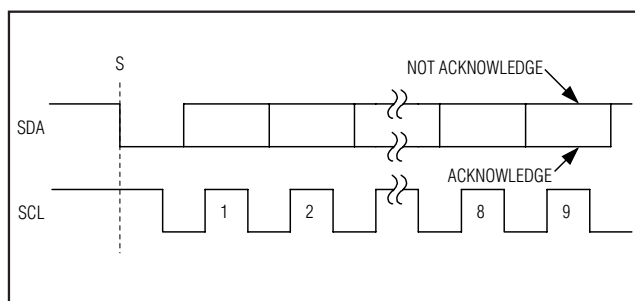

Figure 6. Acknowledge Bits
Data transfers are acknowledged with an acknowledge bit (A) or a not-acknowledge bit (\bar{A}). Both the master and the MAX11646/MAX11647 (slave) generate acknowledge bits. To generate an acknowledge, the receiving device must pull SDA low before the rising edge of the acknowledge-related clock pulse (ninth pulse) and keep it low during the high period of the clock pulse (Figure 6). To generate a not-acknowledge, the receiver allows SDA to be pulled high before the rising edge of the acknowledge-related clock pulse and leaves SDA high during the high period of the clock pulse. Monitoring the acknowledge bits allows for detection of unsuccessful data transfers. An unsuccessful data transfer happens if a receiving device is busy or if a system fault has occurred. In the event of an unsuccessful data transfer, the bus master should reattempt communication at a later time.